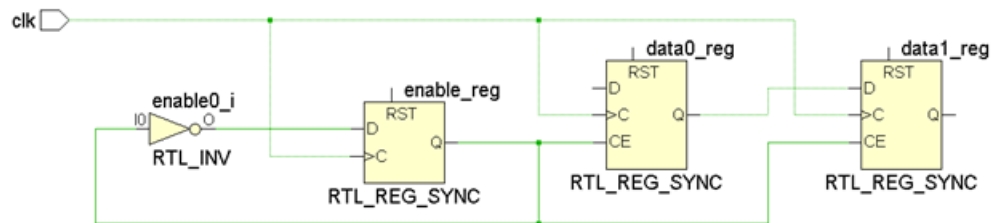

Figure 5-4: Registers Enabled Every Two Cycles
Figure 5-4 shows a path between two flip-flops that are enabled every two cycles. It is safe to define a Multicycle Path constraint on this path to indicate that: (1) the first edge of the destination clock is not active; and (2) only the second edge of the destination clock will capture a new data.
In the same example as Figure 5-4, after moving the setup check to the second capture edge, the hold check is automatically moved to the first capture edge (that is, one clock period before the setup check).